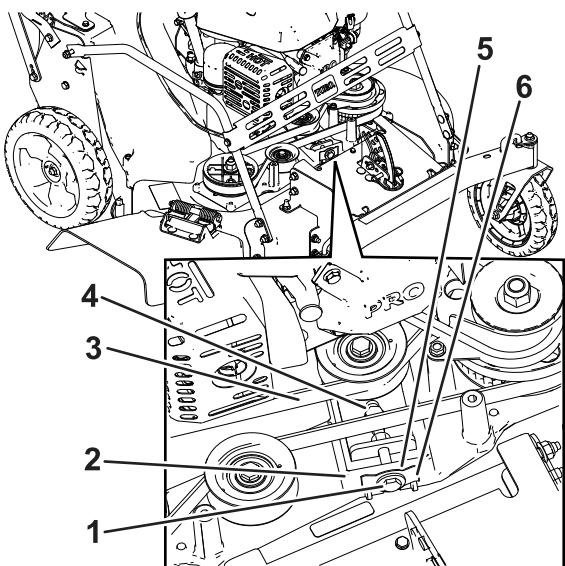

Figure 32
1. Remove the 4 fasteners on the belt cover and remove it (Figure 32).
Note: If there is a visible gap between the gauge and the spring, tighten the adjusting bolt and the nut until the feeler gauge barely slides freely in and out of the gap; refer to Figure 32.
7. Loosen the adjusting bolt (Figure 32).